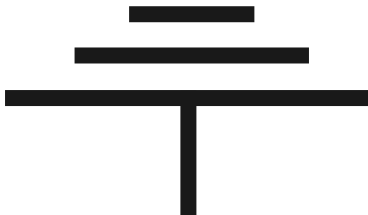

fig 148: clearly marked junction box
- a 2 core flex with a minimum cross-sectional area of 0.5mm^2 is used to extend sensor 1 (black sheathed) from the solar collector to the controller via a suitable junction box, see fig 148